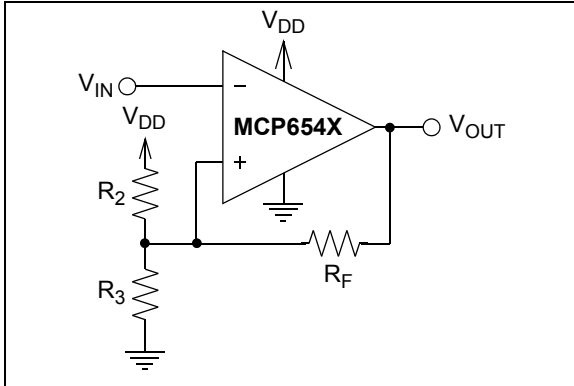
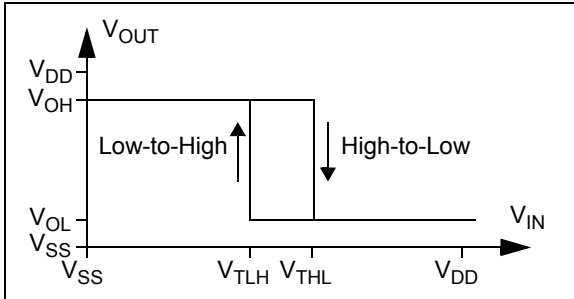
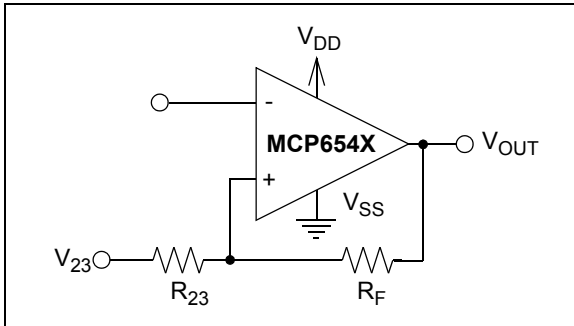

FIGURE 4-6: Inverting Circuit With Hysteresis.
FIGURE 4-7: Hysteresis Diagram for the Inverting Circuit.
FIGURE 4-8: Thevenin Equivalent Circuit.
Figure 4-6 shows an inverting circuit for single-supply using three resistors. The resulting hysteresis diagram is shown in Figure 4-7.
In order to determine the trip voltages (V_{THL} and V_{TLH}) for the circuit shown in Figure 4-6, R_2 and R_3 can be simplified to the Thevenin equivalent circuit with respect to V_{DD} , as shown in Figure 4-8.
1. Inverting Configuration (Figures 4-6 and 4-9):